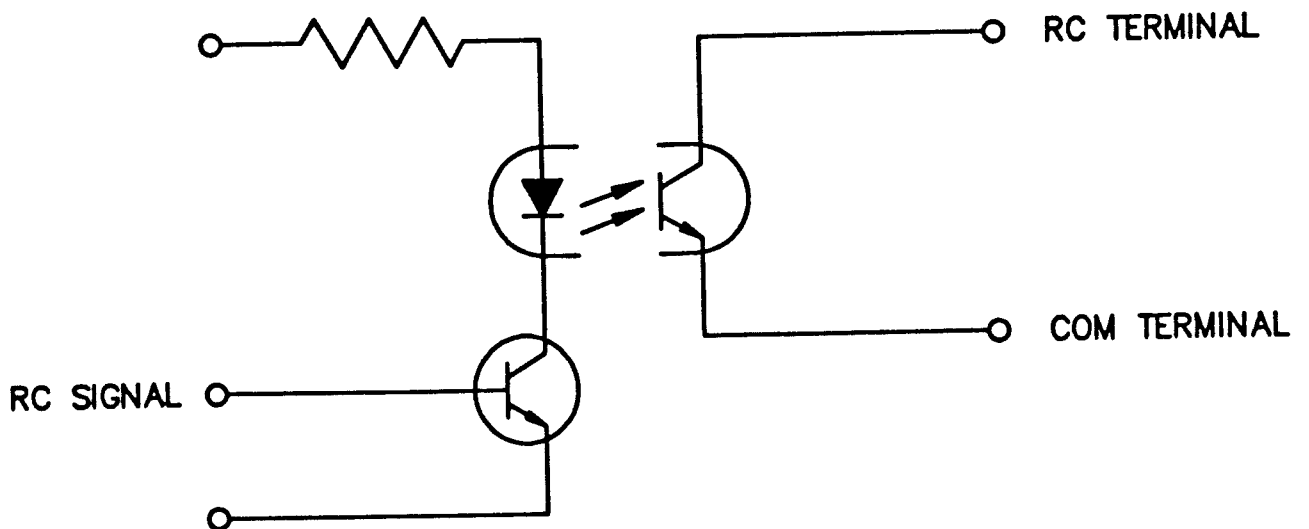

FIGURE 3 RECOMMENDED REMOTE ON/OFF INPUT CIRCUIT TO THE RC TERMINAL OF THE FPD 50-24 POWER SUPPLY
The following input signals applied to the RC terminal, control the output voltage (see Figure 3).
3. The input circuit to the RC terminal should be designed with a photo coupler or relay (see Figure 3)